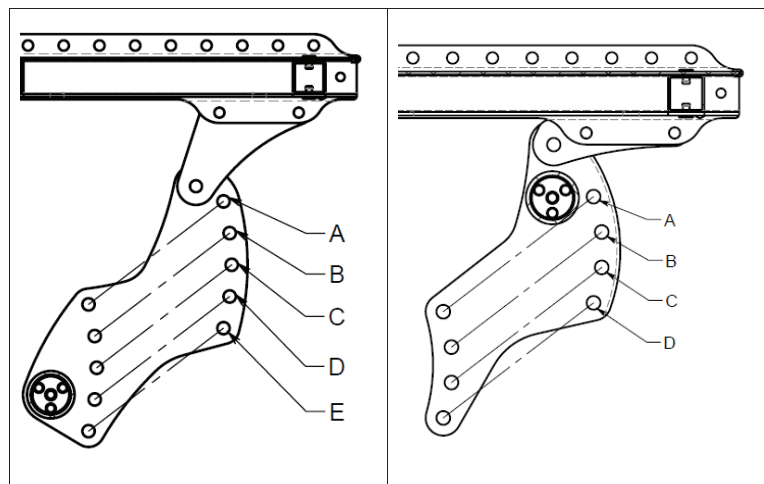

Figure 14.7: Stellar GL Chair positions
4. Reposition the sub frame onto the lower frame. There are multiple seat height options for each chair. Refer to Figure 14.7 and Table 14.1. Once the holes on the sub frame, lower frame, and shim are lined up, insert the lower seat height bolt on each side of the frame. This will help with the alignment of the frames. Then refit the upper seat height bolt.